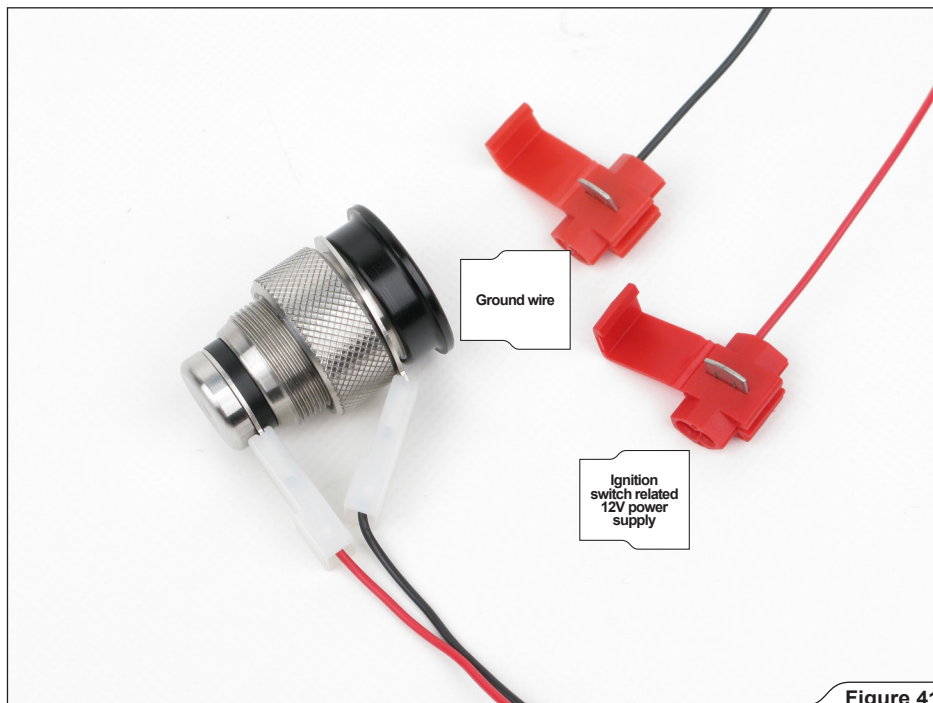

Figure 41
3. Correctly assembled dashboard or additional bracket mounted keyfob components (**Figure 41**).